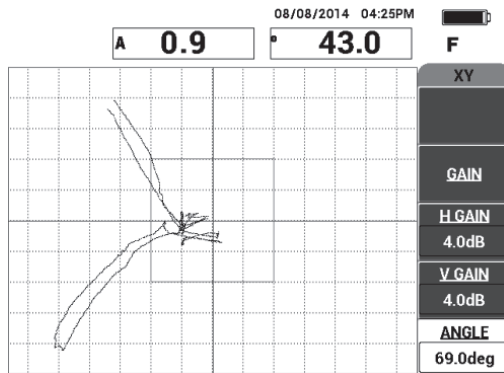

Figure 6-8 Adjusting the disbond signal angle
4. While on the **MAIN** menu, press **ANGLE** (E key), and then adjust the signal angle so the far-side disbond goes down and the near-side disbond goes up (see Figure 6-8 on page 136).